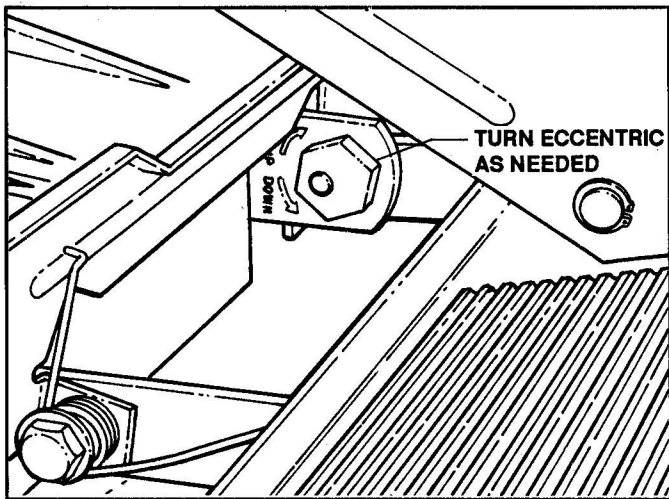

FIGURE 4.9
- (i) Turn eccentric "UP" or "DOWN" as required until blade tips are within 1/8" of each other. See Figure 4.9.